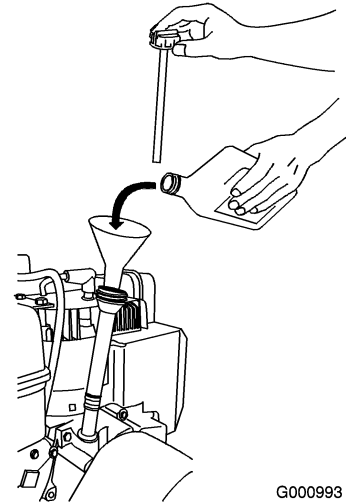

Figure 12
1. Remove the dipstick and **slowly** pour oil into the oil fill tube to raise the oil level to the Full mark on the dipstick. **Do not overfill** (Figure 12).